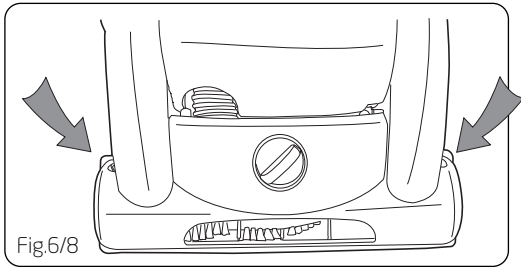

Fig.6/8
Stand cleaner up (Fig.6/1).
Base should lay flat and face up. To remove nozzle guard, use Phillips screwdriver to remove the TWO (2 ) screws. Arrows show location of screws (Fig.6/1).
Remove sole plate by lifting off (Fig.6/2).
Lift and remove brushbar. Dispose of old belt (Fig.6/3).
Slide belt onto motor shaft (Fig.6/4).
Place new belt in area of brushbar without bristles (Fig.6/5).
With new belt in place, pull and slide brushbar into nozzle making sure that the brushbar end caps are in the correct orientation (Fig. 6/6 inset). Rotate brushbar manually to make sure belt is properly aligned.
Replace base hood onto base of cleaner (Fig. 6/7).
Replace all Two (2) screws to secure nozzle guard (Fig.6/8).